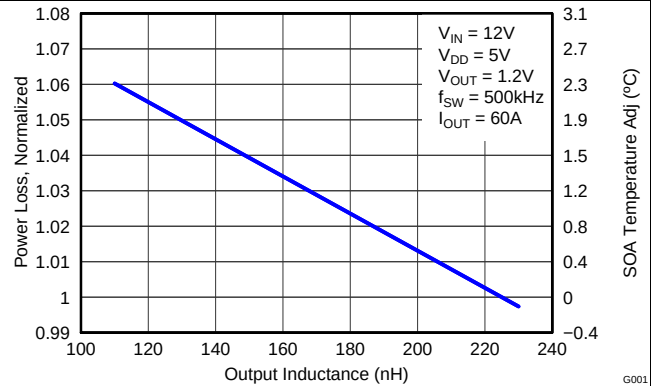

Figure 8. Normalized Power Loss vs Output Inductance
- Normalized Power Loss for output inductor  $\approx 1.01$  (Figure 8)
- SOA adjustment for output inductor  $\approx 0.5^{\circ}\text{C}$  (Figure 8)